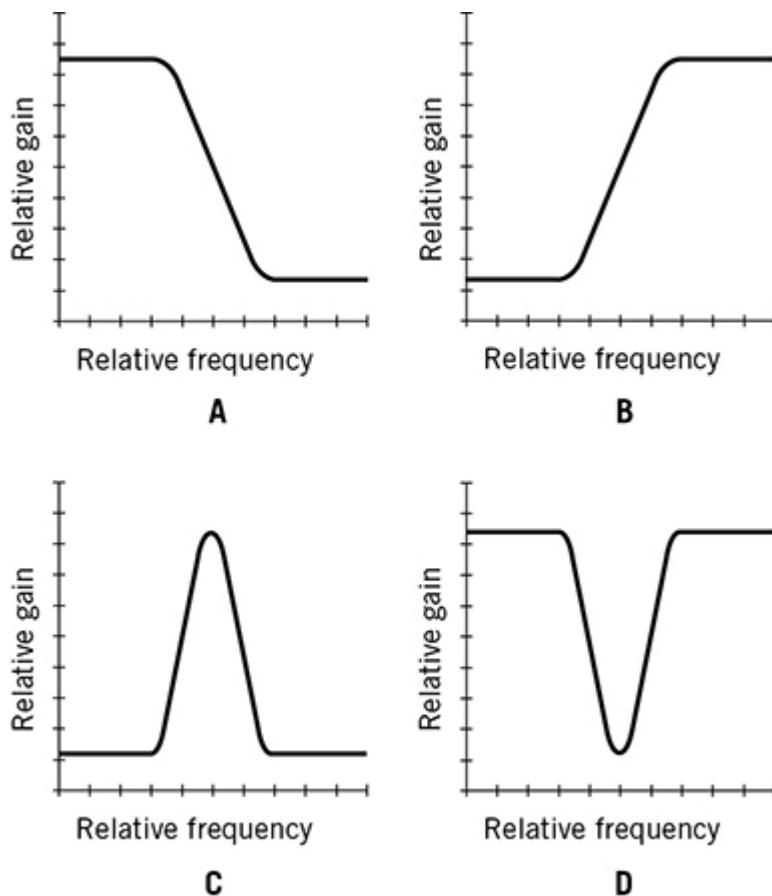

FIG. 3-47 Gain-versus-frequency response curves. At A, lowpass; at B, highpass; at C, resonant peak; at D, resonant notch.
If you install a *resistance-capacitance* (RC) combination in the inverting-feedback loop of an op amp, the gain depends on the frequency of the signal that enters the device. Using specific values of resistance and capacitance, you can make a frequency-sensitive filter that provides any of four different characteristics as shown in Fig. 3-47: